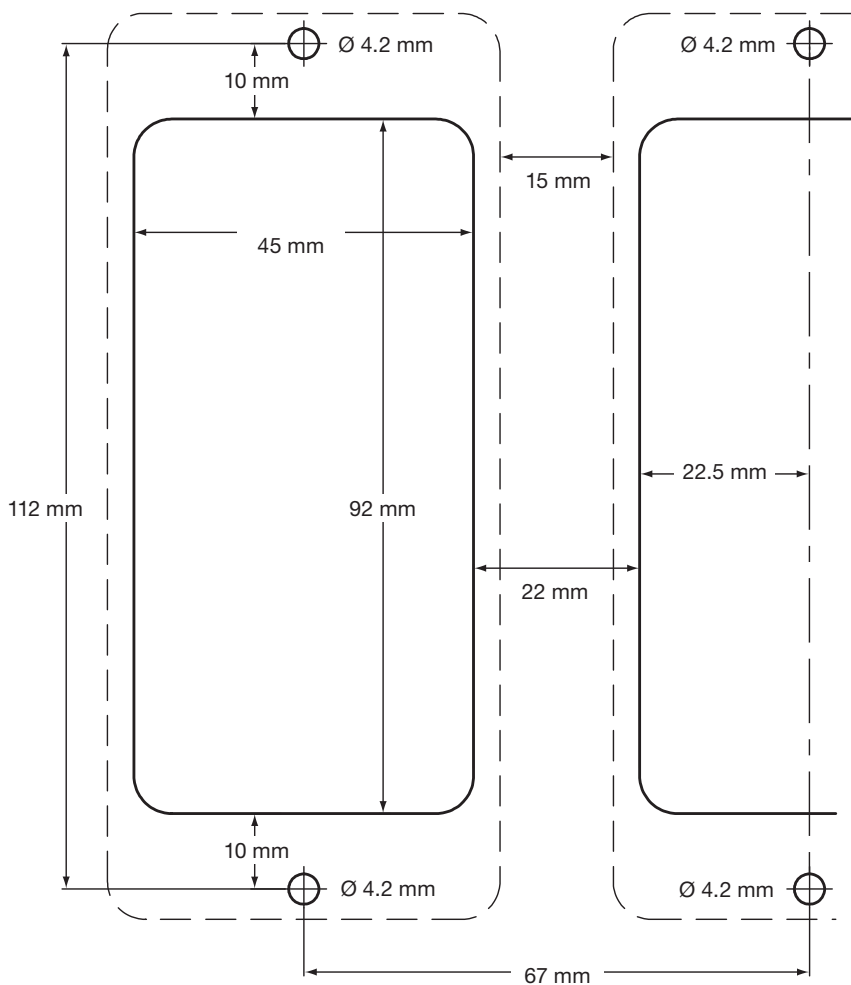

Fig. 12 Chassis plate/panel – cutout diagram
- Drill holes in the chassis plate as shown in Figure 12.
- Cut the panel to the dimensions given in Figure 12. Drill the screw holes in the panel in the positions indicated.